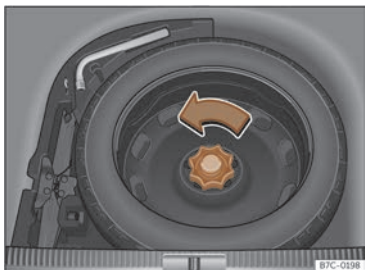

Fig. 237 In the luggage compartment: raised load floor.
- Turn the thumb wheel anticlockwise >>> Fig. 237.